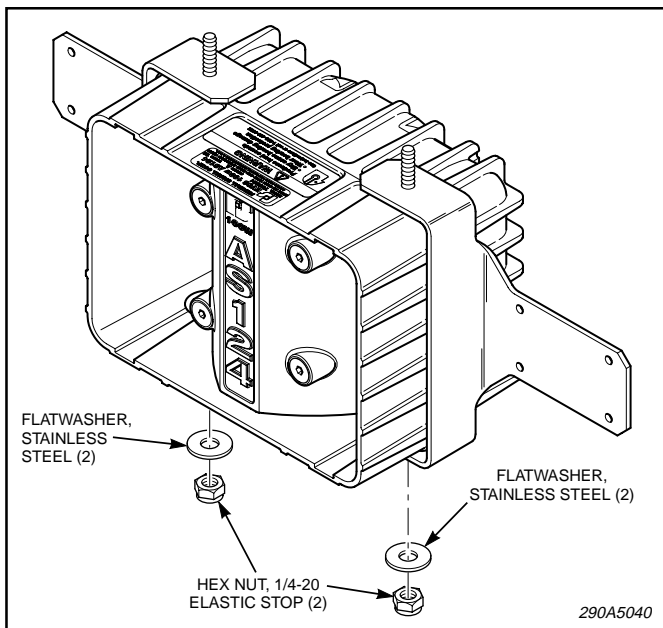

Figure 5.
4. See figure 5. Mount the two Cuda TriOptic mounting brackets to the AS124 speaker using the 1/4-20 x 3/4" carriage bolts, washers, and elastic stop nuts supplied with the kit.